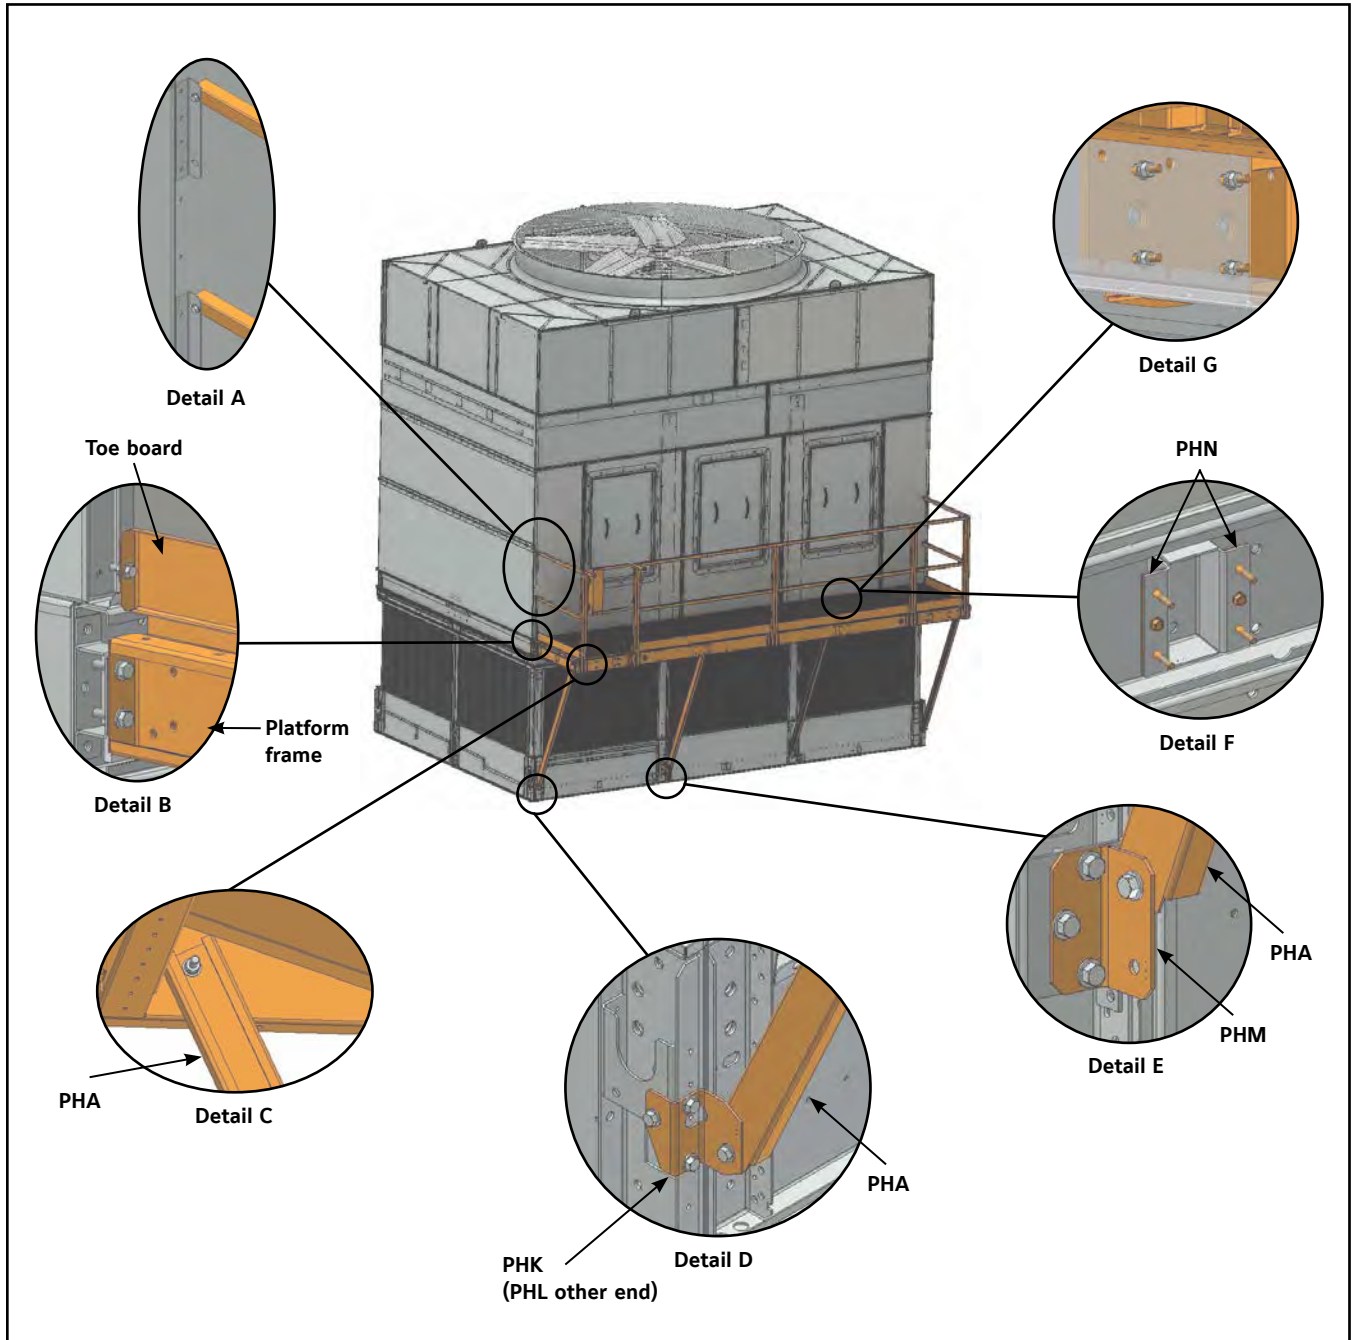

Figure 27 - Fill Access Platform with Side Ladder - IDCF-0718, 1218, 2418, 1220, 2420
1. For 18' long platforms, first secure the bolt plates PHN to the factory installed brackets on the casing frame using the 5/16" self-tapping screws provided. See Figures 27 and 28, Detail F.
2. Lift the platform module into place and secure the platform frame to the factory installed brackets on the casing frame. For 18' long units, use the 5/16" hardware provided to secure the platform frame to the center supports. See Figures 27 and 28 Detail G. For all units, use the 1/2" x 1 1/4" bolts provided to secure the platform frame to the end supports. See Detail B.